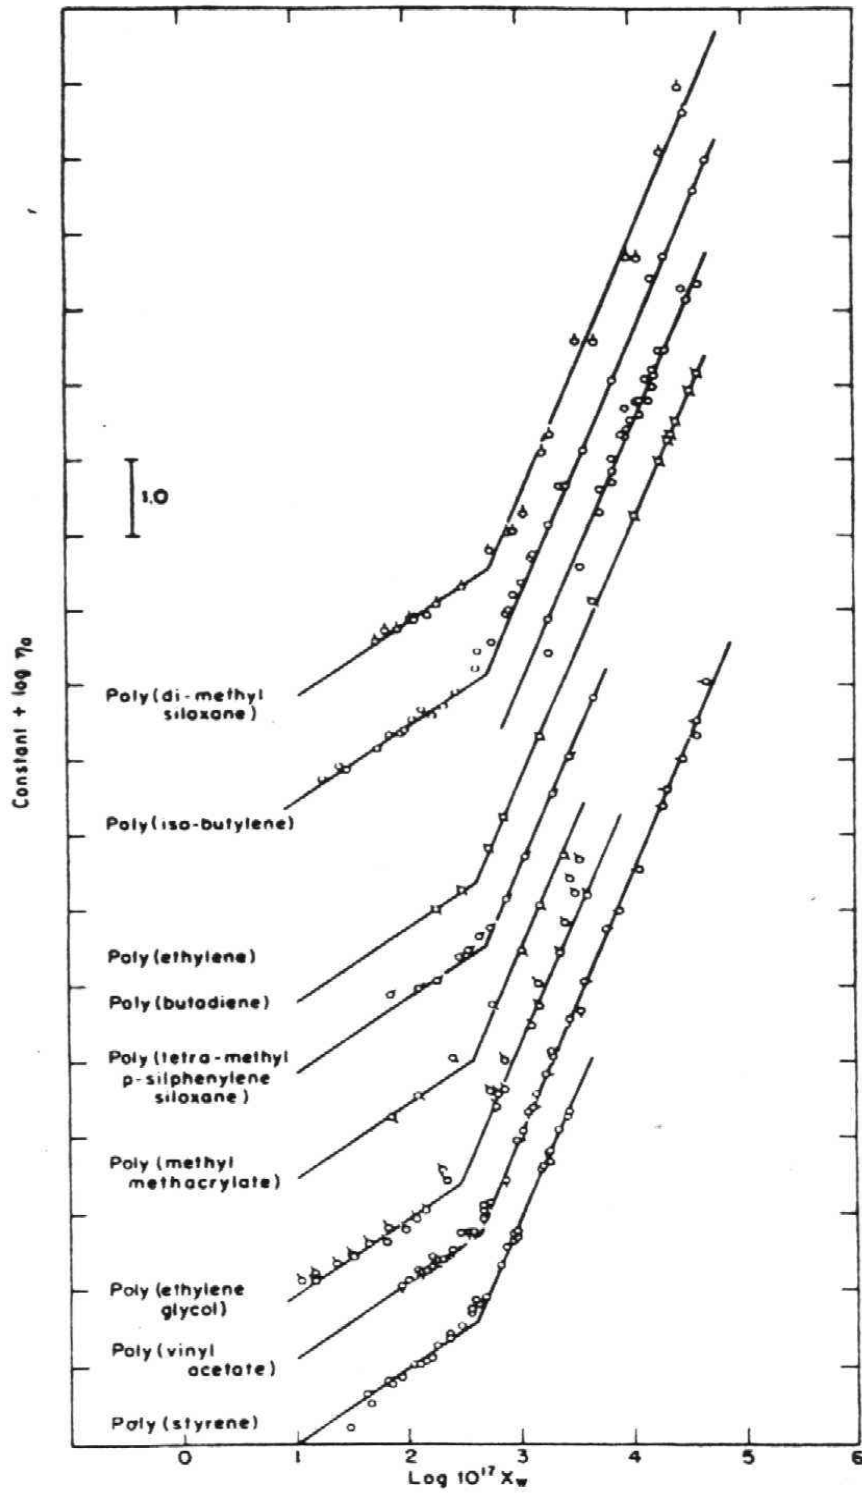

Figure 9.  $\log \eta_0$  plotted against an abscissa which for each polymer is  $\log M + \text{const.}$  for nine different polymers (Berry and Fox)
② polymer viscosity and elastic property vs. molecular structure and process condition(temp. shear rate); zero shear viscosity( $\eta_0$ )  $\leftrightarrow$   $M_w$ . (Figure 9)